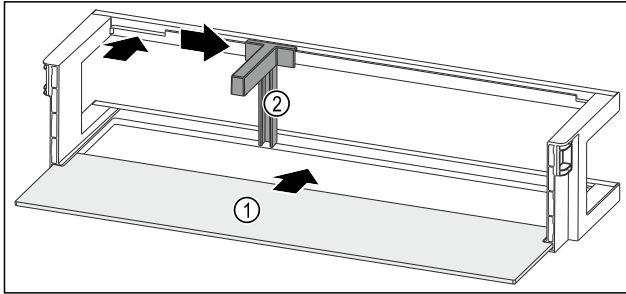

Fig. 88 Door racks with shelf
- ▶ Push the shelf Fig. 88 (1) into the side cutouts.
- ▶ Insert the bottle holder Fig. 88 (2) into the recess.
- ▶ Push the bottle holder Fig. 88 (2) to the side into the desired position.